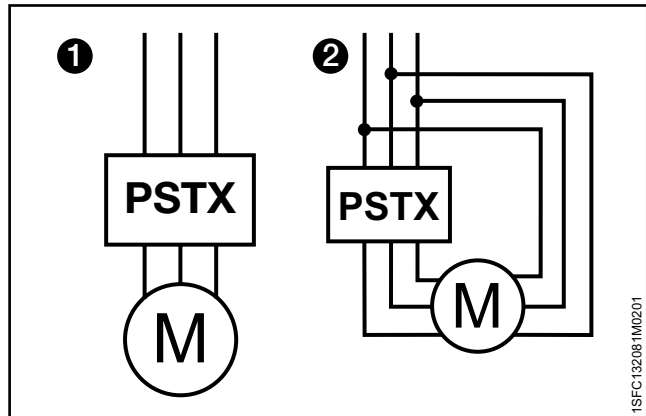
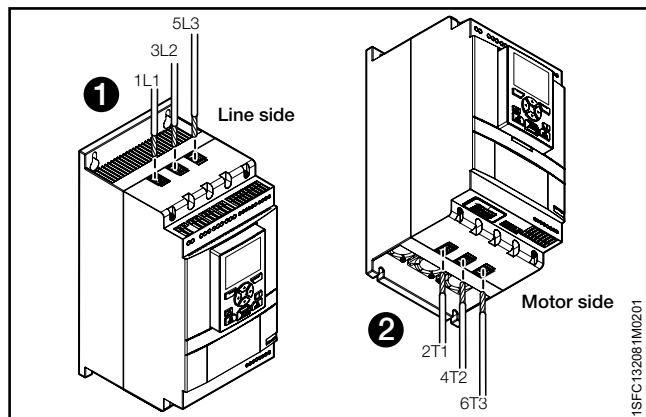
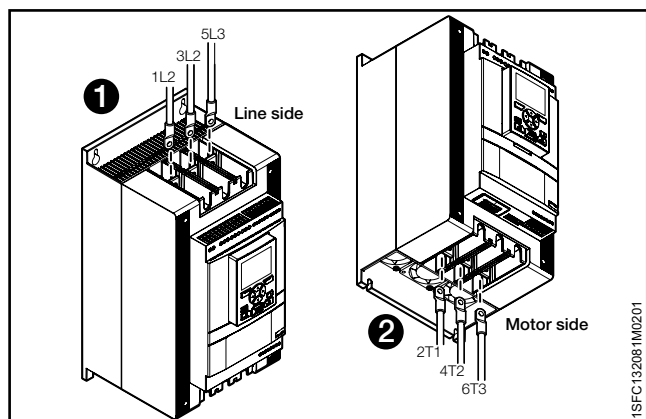

Figure 5.1
Figure 5.2
Figure 5.3
Softstarters PSTX30...PSTX1250 can be connected In Line, see **1 Figure 5.1**, and Inside Delta, see **2 Figure 5.1**. Use wire connection for PSTX30...105 see **Figure 5.2**. Terminal connection for PSTX142...1250 see **Figure 5.3**.
- Connect the line side to terminals 1L1, 3L2, 5L3, see **1 in Figure 5.2 and Figure 5.3**.
- Connect the motor to terminals 2T1, 4T2, 6T3 on the motor side, see **2 in Figure 5.2 and Figure 5.3**.